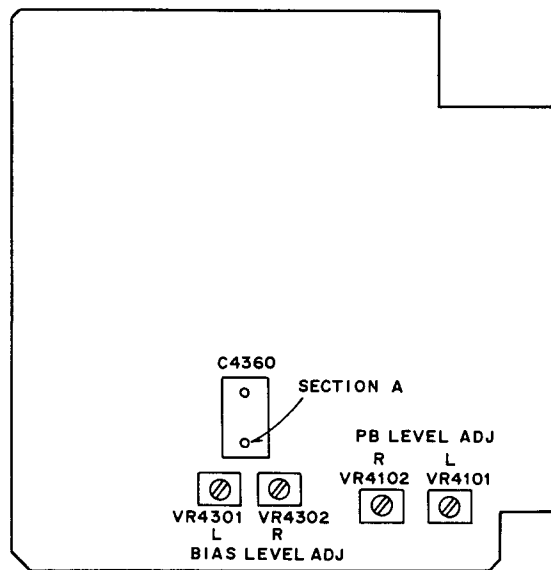

Fig. 7-7. Adjustment Points and Test Points
• Adjustment points and test points are shown in Fig. 7-7.